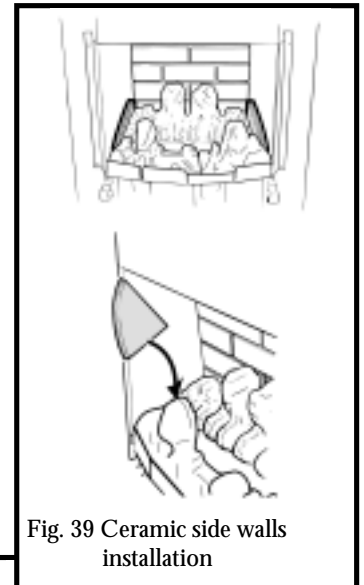

Fig. 39 Ceramic side walls installation
12.4 The ceramic side walls are marked at the rear bottom corners "L" (Left side) & "R" (Right side). Place the side walls against the sides of the fire box and in the recesses at the sides of the base coals. The markings "L" & "R" should be at the back bottom corners and facing to the centre of the back of the firebox (See figure 39).